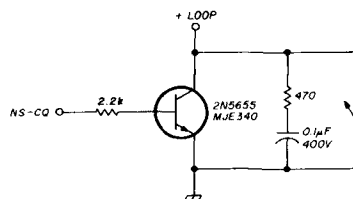

fig. 2. Alternative keying circuit that can be inserted in series with the loop.
**Insulators and brackets.** A suitable insulator had to be designed and made to hold the quad wires to the spreader arms. Fig. 2 shows the insulator for the 7-MHz quad. The 20-meter quad insulator clamps onto the 1-1/4-inch (31.9 mm) tubing; the 15- and 10-meter insulators clamp to the 1 1/2-inch (37.9 mm) tubing. Variation of the insulator size must be made accordingly. The first insulators I made were without the Teflon part. During the first rain storm, rf voltage arced from the brass screw to the tubing and burned up the insulators on the high-voltage points of the driven element.
Most machines have the keyboard in series with the loop supply for local copy, and associated circuitry produces a keying voltage for FSK or AFSK. If your TU has a loop keying transistor, as shown in fig. 2, you can lift the base resistor at the far end and connect the NS-CQ output here. Another method would be to insert another keying circuit, as in fig. 2, in series with the loop. For AFSK, the NS-CQ output can usually replace the normal keying voltage going to your AFSK tone generator. For example, the NS-CQ will drive the *Mainline* AK-2 directly. All these changes can be made with toggle switches.